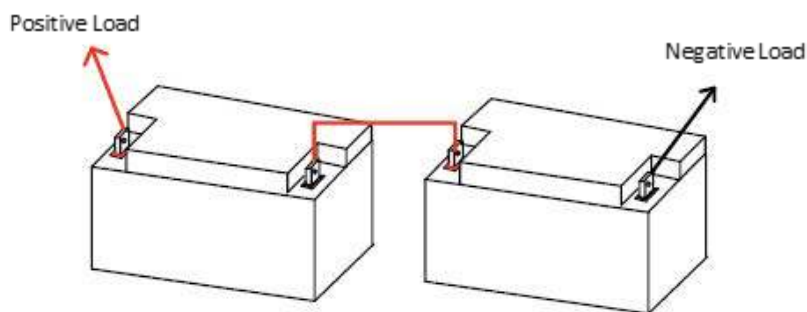

Figure 4: Two BB10012/H Batteries Connected in Series to create a 24V 100Ah Battery Bank
When batteries are connected in series, current capacities remain the same, but the system voltage is additive. For example, two BB10012/H batteries connected in series form a nominally 24V system (shown in Fig. 4) and should be charged using a bulk and absorption voltage of 28.8V, and a float voltage of 27.2V.
7. Repeat steps 3-6 for additional batteries, but **DO NOT** exceed 48V. An example of a correct series connection can be found below in Fig. 4.